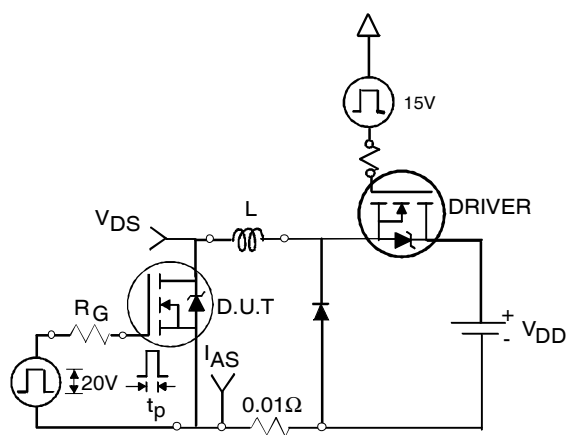

**Fig 19a.** Unclamped Inductive Test Circuit
3. Equation below based on circuit and waveforms shown in Figures 19a, 19b.